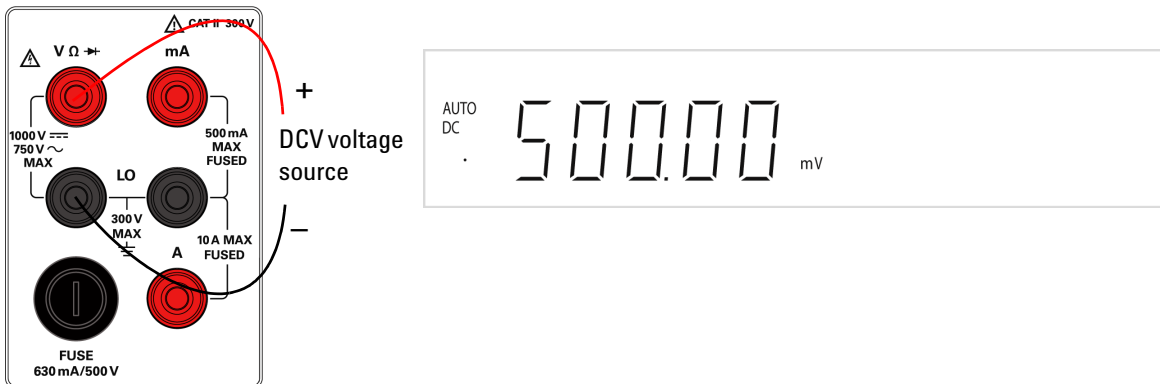

Figure 1-11 DCV terminal connection and display
- 2 Connect the red and black test leads to the respective input terminals as shown in **Figure 1-11**.